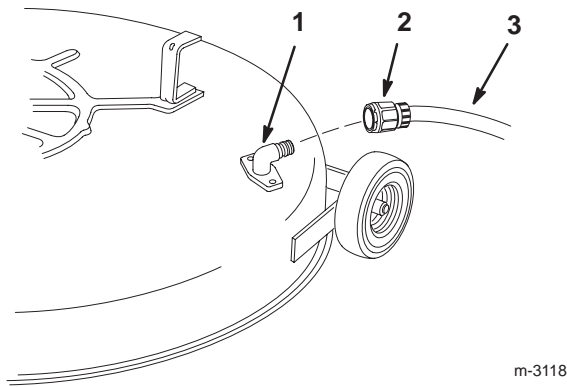

Figure 50
5. Attach the coupling to the end of the mower washout fitting and turn the water on high (Fig. 50).